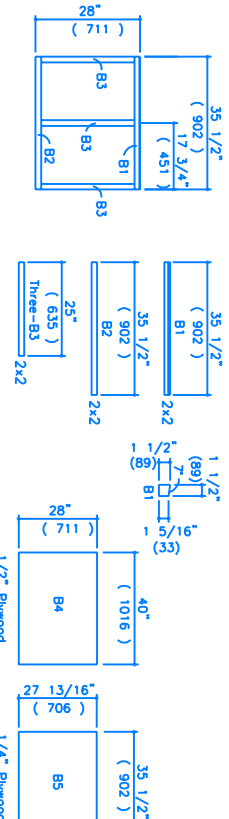

FIGURE 4
- 3) Component B. Cut piece B1 with a 7 degree angle along top edge. Lay out the three pieces B3 between pieces B2 and B1 with the 7 degree edge of piece B1 on the top outside edge, (Fig. 4). Nail through pieces B1 and B2 into the ends of pieces B3 using 2 1/2" common nails. Place B4 on the assembly with B1 flush with B3. Place B2 and B3 on a 2 1/4" overhang post the outside edges of pieces B1, B2 and B3 using 1 1/2" common nails. Invert the assembly, place insulation and place piece B5 on top flush with outside edges on B1, B2 and B3s. Nail to pieces B1, B2 and B3 using 1 1/2" common nails.